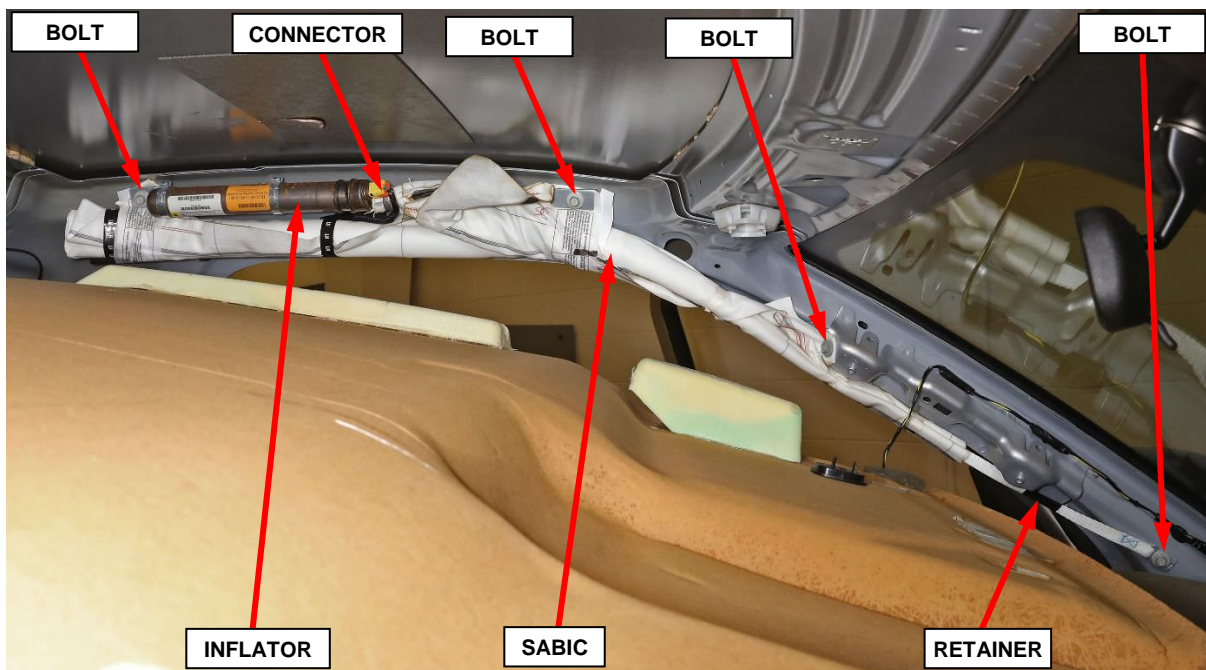

Figure 12 – SABIC
19. The body wire harness connector is secured by integral latches to the connector receptacle on the inflator. Pinch both latches firmly, then pull the connector straight out from the airbag inflator to disconnect it from the connector receptacle (Figure 12).
20. Remove the four bolts that secure the side curtain airbag to the inner roof rail and A-pillar (Figure 12).
21. Disengage the one plastic push-in retainer that secures the side curtain airbag tether to the inner A-pillar (Figure 12).
25. Position the **NEW SABIC** into the vehicle as a unit (Figure 12).
27. Ensure the tether is not twisted then engage the one plastic push-in retainer that secures the side curtain airbag front tether to the assist handle bracket on the inner A-pillar (Figure 12).
28. Working from rear to front, install and tighten the four bolts that secure the side curtain airbag to the inner roof rail and A-pillar. Tighten the bolts to 7 N·m (62 in. lbs.) (Figure 12).
29. Connect the body wire harness connector for the side curtain airbag to the connector receptacle of the inflator. Be certain that each connector is fully engaged in its receptacle by listening carefully for a distinct, audible click as the connector latches snap into place (Figure 12).